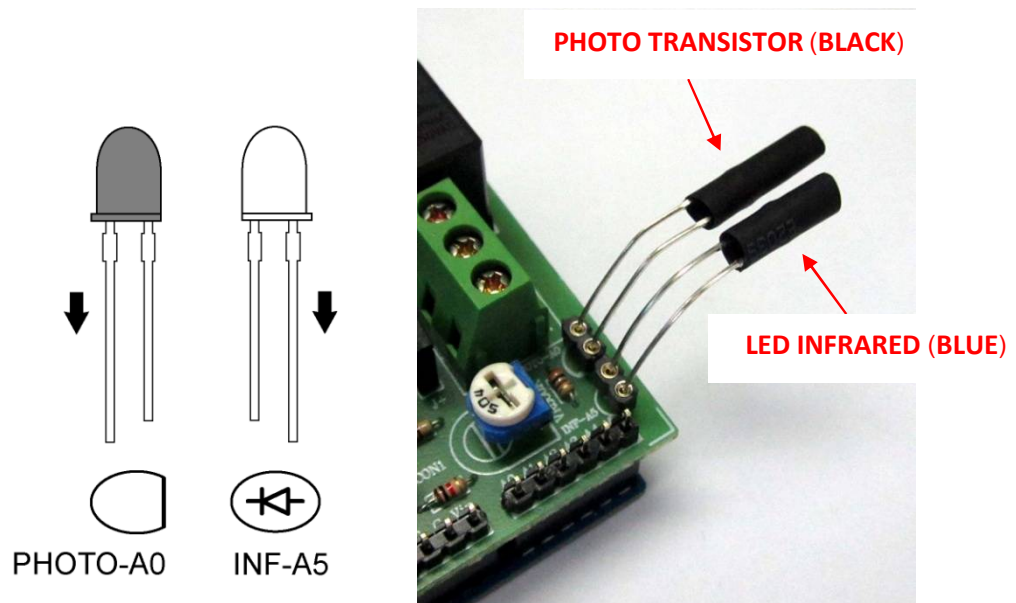

Figure 17. Inserting the infrared LED and the photo transistor
12. Insert LED Infrared with INF point and photo transistor with PHOTO point as shown in Figure 17. Open LAB1413-4 program in "FK1413" folder. Download LAB1413-4 program to Arduino board. Adjust the value of resistor until the LED lights off. Hide the front side of TX-RX Infrared by using paper. The width of gap between TX-RX Infrared and paper is 1 inch approximately. To test the Infrared circuit if it is working, notice that when the paper is hiding TX-RX Infrared, the LED must be light-on and when putting of the paper, the LED must be light-off.